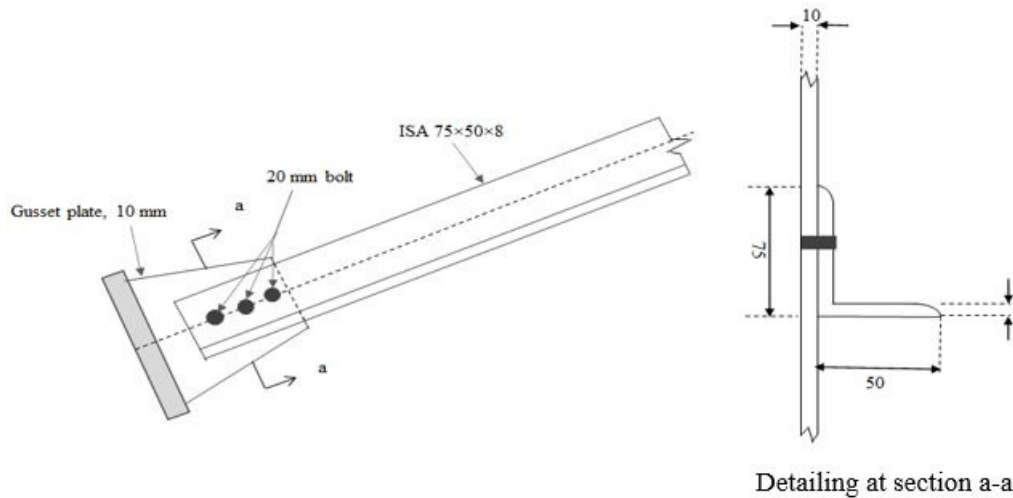

Fig. 1
- (c) Calculate the value of ' β ' for a tension member made of ISA 75×50×8. The larger leg is connected to 10 mm gusset plate with 3 no's of 20 mm nominal diameter bolt of grade 4.6 arranged in single line as shown in figure 1 below. The pitch, the edge distance and the gauge distance are 50 mm, 35 mm and 40 mm respectively. Consider Fe 410 grade of steel.